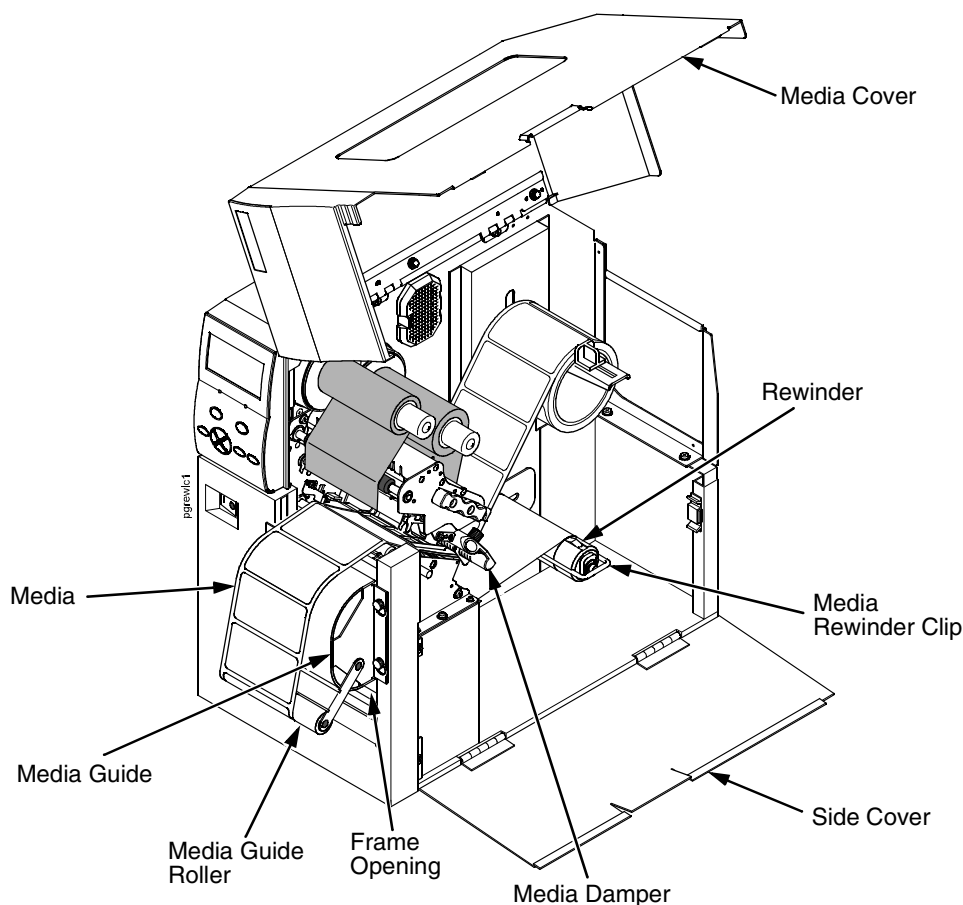
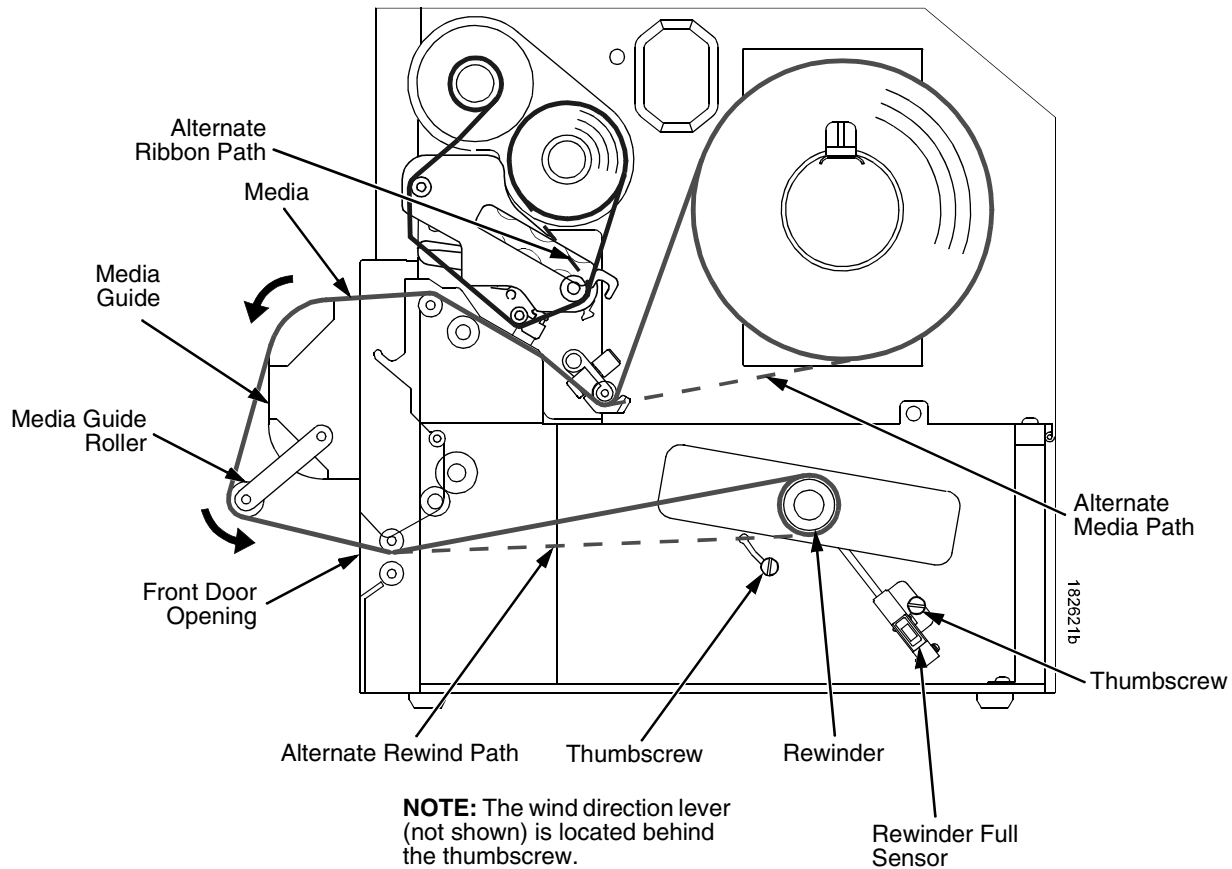

Figure 8. Loading the Media Rewinder
Figure 9. Ribbon Rewind Path
2. Thread the media over the front of the media guide, around the media guide roller, and through the frame opening toward the rewinder. See Figure 8 and Figure 9.
3. Loosen the thumbscrew, pull it outward, position the wind direction lever in the desired location, and tighten the thumbscrew. See Figure 9.
2. Position the rewriter full sensor in the lower position and tighten the thumbscrew. See Figure 9.